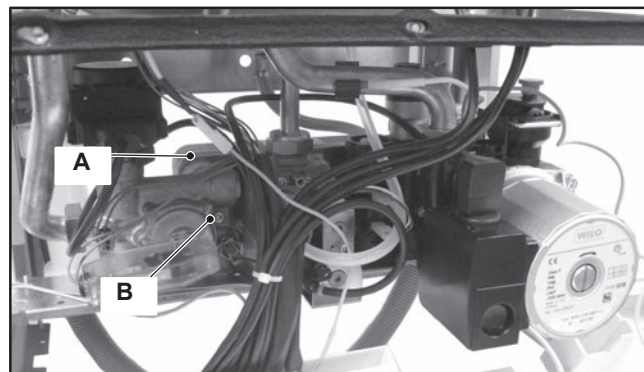

Figure 6.3
The d.h.w. heat exchanger A in Figure 6.1 and Figure 6.3 allows the instantaneous transfer of heat from the primary hydraulic circuit to the water destined for d.h.w. use.
- 3 Completely unscrew the Allen key screws B in Figure 6.3 which hold the exchanger to the brass group.